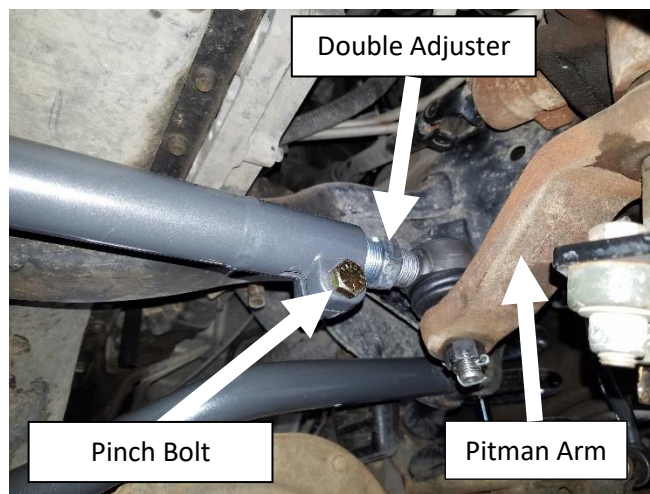

Figure 15. Pitman Arm Side of Synergy Drag Link Shown with Pinch Bolt Down
21. Synergy 8567-xx drag links are oriented with the pitman arm side pinch bolt down. See **Figure 15**.